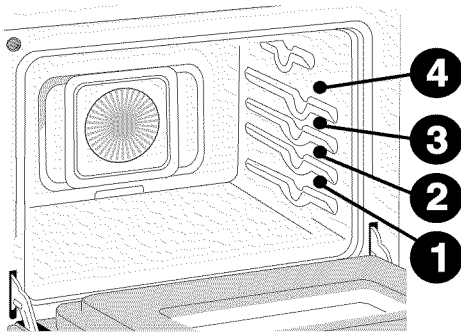
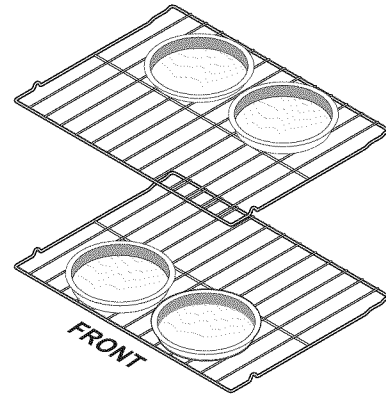

Figure 19: Lower oven rack positions
Figure 20: Lower oven, multi rack pan spacing
- For best results when baking cakes using two oven racks, place bakeware on oven rack positions 1 and 3 (Figure 19) and place pans as shown in Figure 20.